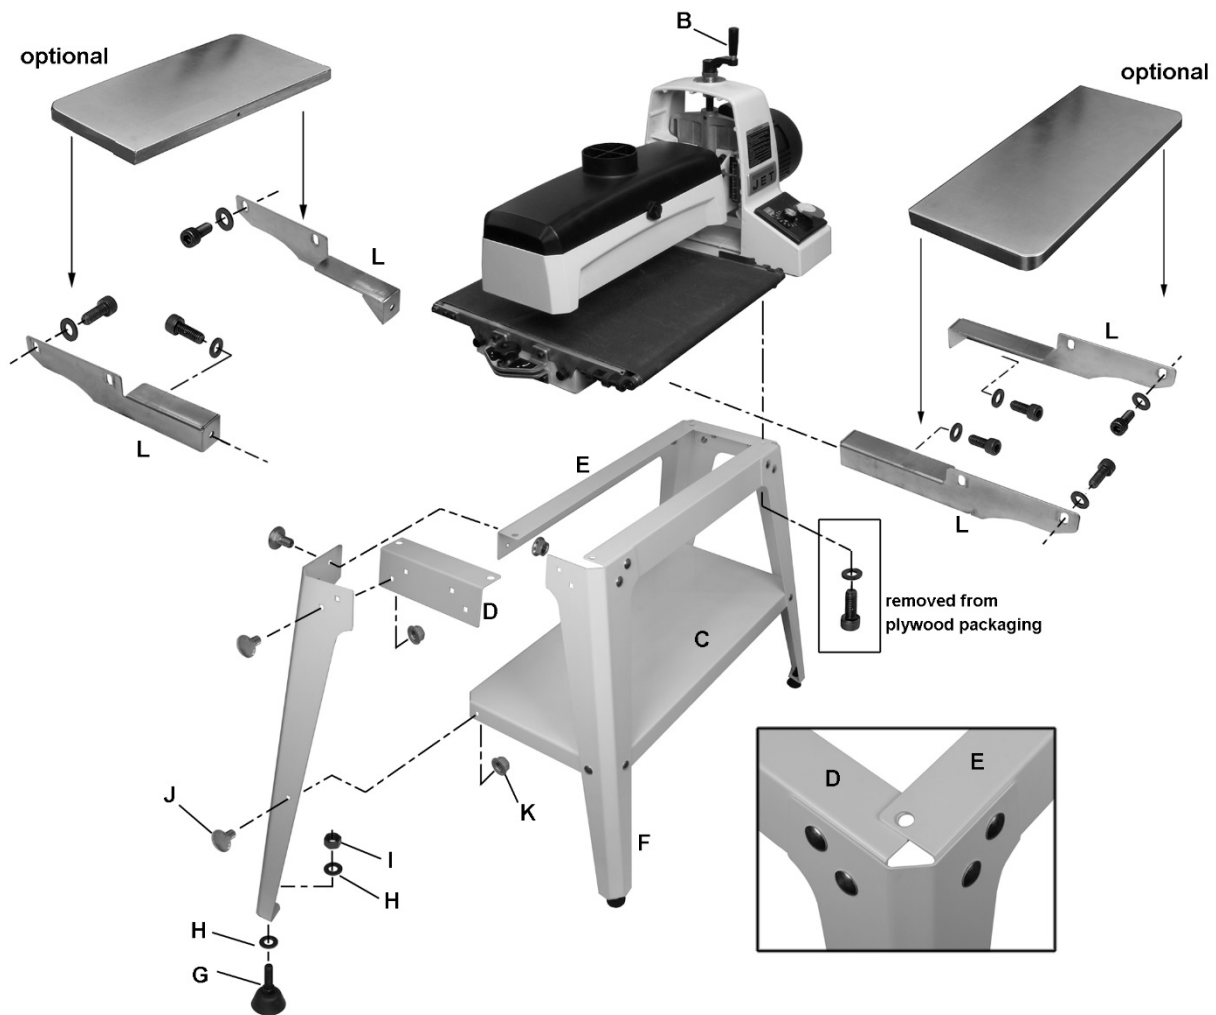

Figure 6-3: Assembly
(Refer to Figure 6-3. If further clarification is needed, consult parts breakdown at back of this manual.)
1. Assemble legs (F) to outside of Short Rails (D) using carriage bolts (J) and flanged lock nuts (K). *Finger tighten only.*
2. Assemble Long Rail (E) on inside of legs and on top of Short Rails (D). *Finger tighten only.* NOTE: Flange of Long Rail overlaps flange of Short Rail. See inset, Figure 6-3.
3. Turn stand upside down. Install shelf (C) into legs using carriage bolts and lock nuts.
5. Insert leveling foot (G) into bottom hole of leg with flat washers and hex nut.
1. Install infeed and outfeed brackets (L, Figure 6-3) to the threaded holes in sander base with M8x16 socket head cap screws and flat washers. Make sure left and right brackets are oriented as shown. The brackets should be flush against the base. NOTE: Long brackets mount to front (infeed); short brackets to rear (outfeed).